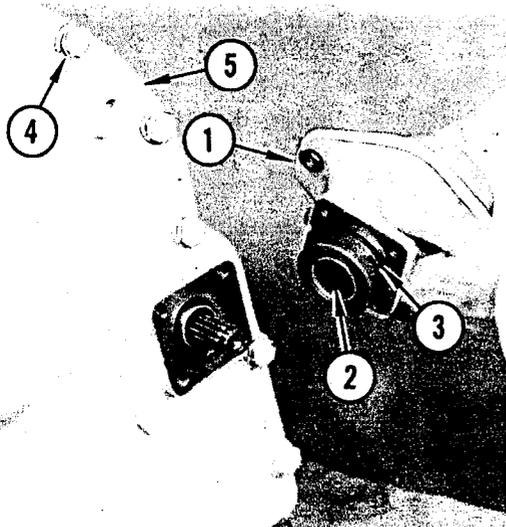
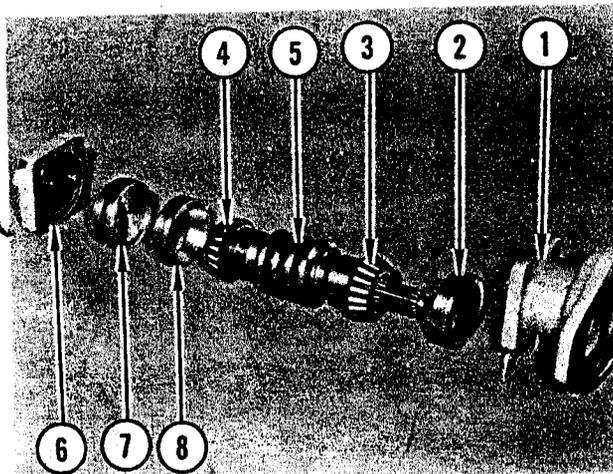

FIGURE 5. REMOVE MOTOR ADAPTER
FIGURE 6. BLADE LIFT FIRST REDUCTION GROUP
Refer to Figure 5. Remove four capscrews and lockwashers retaining hydraulic motor adapter (1) to gear housing cover. Remove adapter. Remove bearing cup (2) from bore of adapter. Remove "O" ring (3) from hub of adapter. Remove fifteen capscrews and lockwashers (4) retaining cover (5) to gear housing. Remove cover and gasket.
Refer to Figure 6 and follow the numerical sequence for disassembly of the first reduction group. Items (1) and (2) were previously removed under Figure 5.